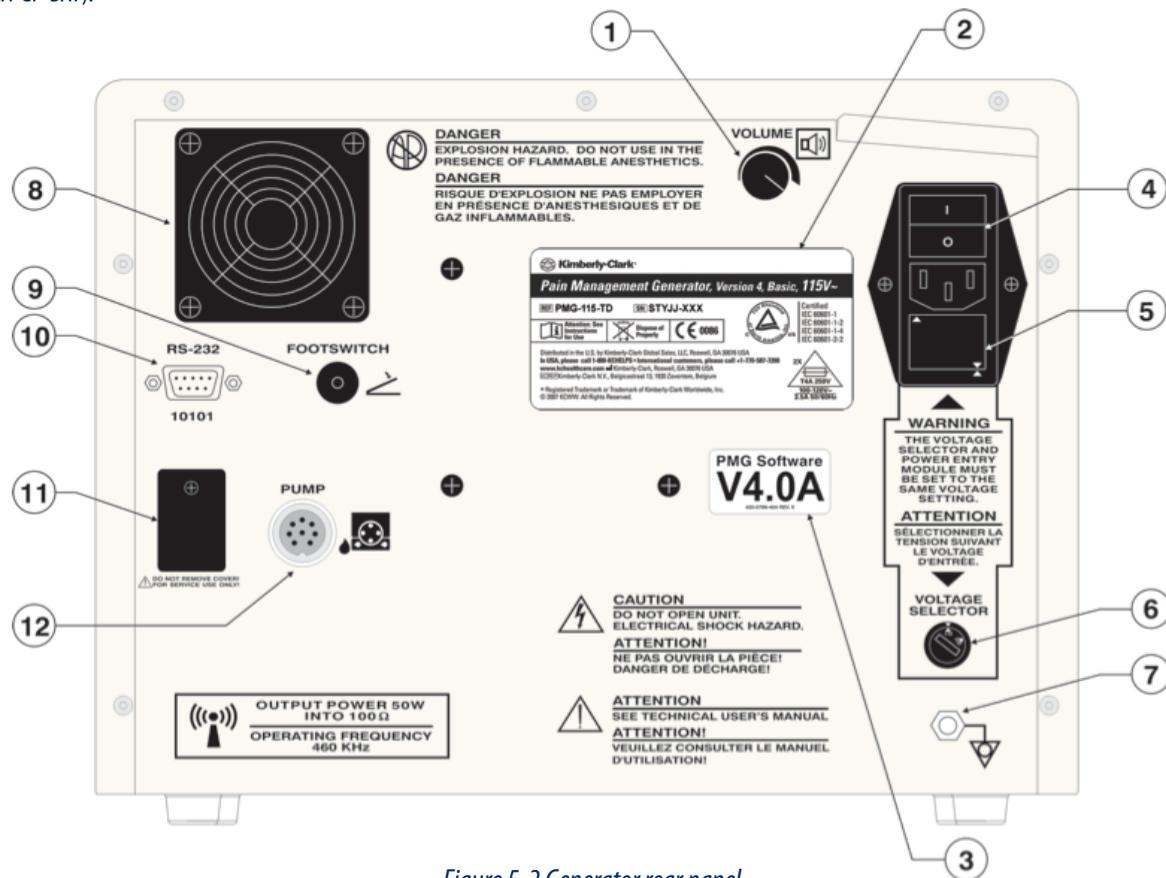

Figure 5-2 Generator rear panel
- Descriptions of rear panel features and their functions are given below. Please refer to Figure 5-2 for corresponding locations on the rear panel.